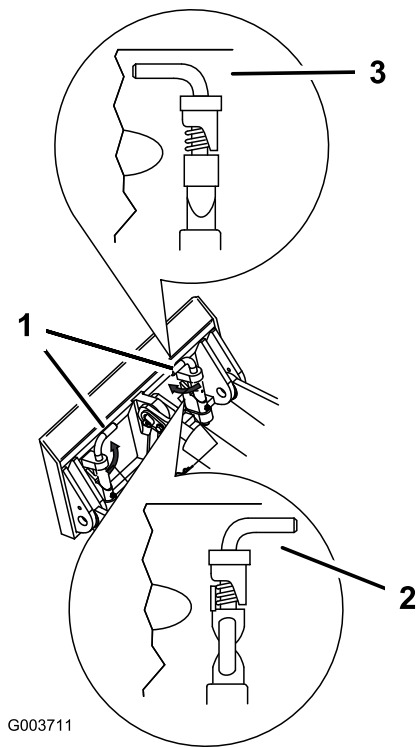

Figure 16
7. Engage the quick-attach pins, ensuring that they are fully seated in the mount plate (Figure 16).